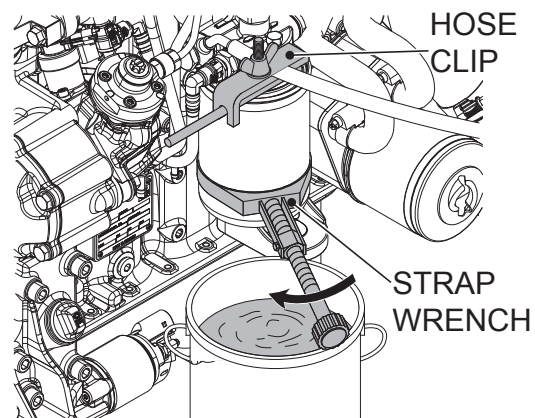

Figure 29. Fuel Fine Filter
1. Block the fuel feed line using the hose clip (Figure 29).